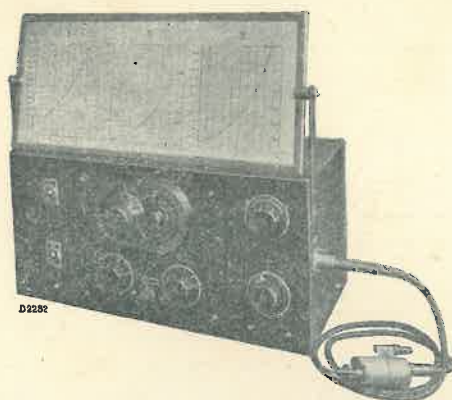

Fig. 1
1. Service oscillator GM 2880 F (fig. 1).
6. Trimming plug-in key 6 mm, without metal parts.
7. Insulated trimming plug-in key 6 mm.
8. Insulated trimming plug-in key 8 mm.